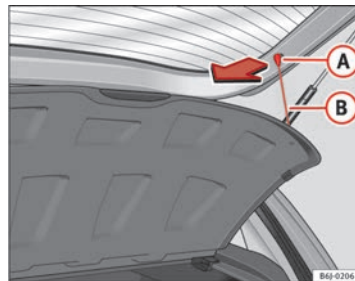

Fig. 96 Rear shelf
- Unhook the loops ⇒ fig. 96 **B** from housings **A**